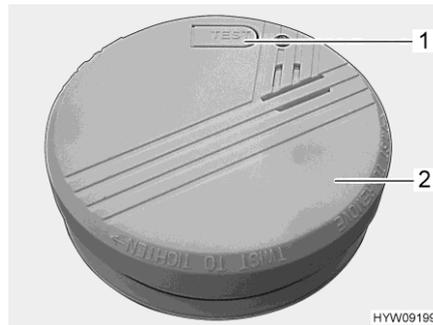

Fig. 226 Smoke alarm
- Turn the smoke alarm (Fig. 226,2) anticlockwise until it can be released from the holder.
- Test the smoke alarm. To do this, press the test button (Fig. 226,1). The alarm must sound.